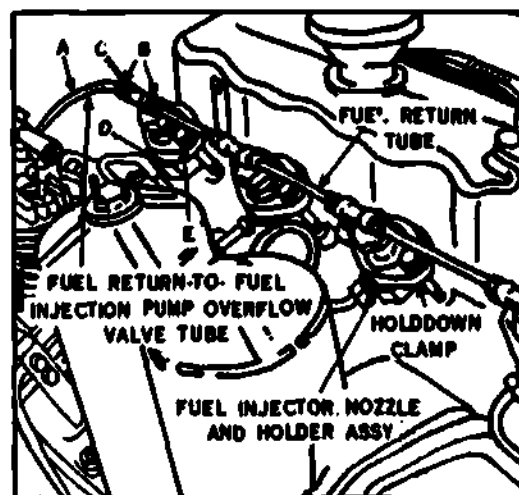

Fig 4-25. Disconnecting or connecting fuel injector nozzle and holder assembly.
- (2) **Replacing.** When you are installing the new line, position it as shown in the accompanying illustration. Start the tube nuts at both ends of the line before tightening the nuts or line clamp. Make sure that the dust cap is in place and that the clamp holds the line firmly. Start the engine and check for fuel leaks.
- (3) **Fuel injector nozzle and holder assemblies.** All fuel injector nozzle and holder assemblies are removed in a similar manner. For instructional purposes, No. 1 fuel injector nozzle will be removed.
- (a) **Removal.** Disconnect fuel return to fuel injector pump overflow valve tube (A, fig 4-25) from tube tee in nozzle and holder assembly. Disconnect the fuel injector nozzle fuel return tube (B) from between the tube tees in the fuel injector nozzle and holder assembly. Remove the tube. Remove the fuel return tee (C). Disconnect the fuel injector tube (D) from the fuel injector nozzle and holder assembly. Remove the two capscrews (E) and lockwashers securing the fuel injector nozzle and holder assembly to the cylinder head.